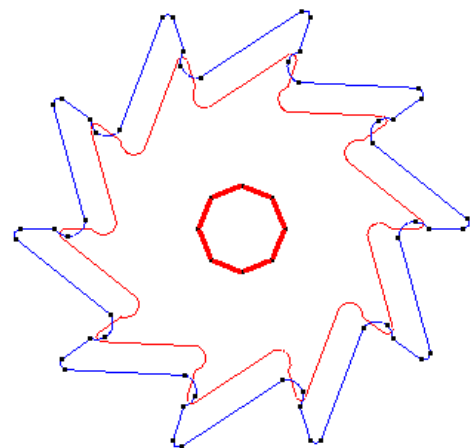

Figure 19. The selected lines that define the hole
- 3 . Select the lines that define the hole (Figure 19) and press **ESC**.